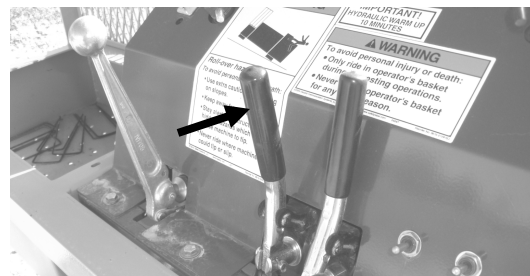
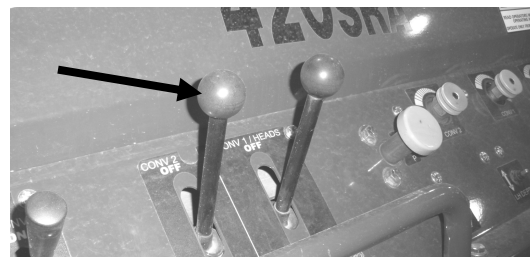

Figure 1—Selector valve for rear conveyor on BR models.
Figure 2—Selector valve for rear conveyor on SR models.
2. Place the rear conveyor selector valve in the on position and note the counter display. See **Figure 1** (BR) or **Figure 2** (SR).